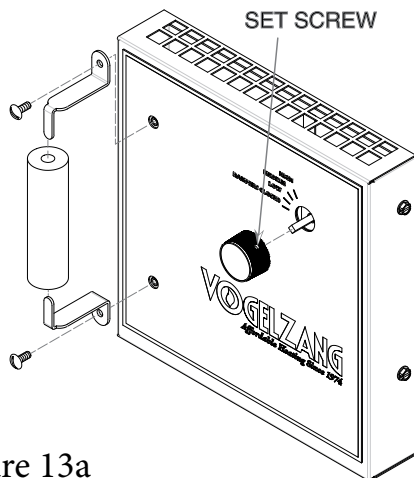

Figure 13a
3. Align thermostat control knob with flat on thermostat control shaft and press onto shaft. (See Fig. 13a)